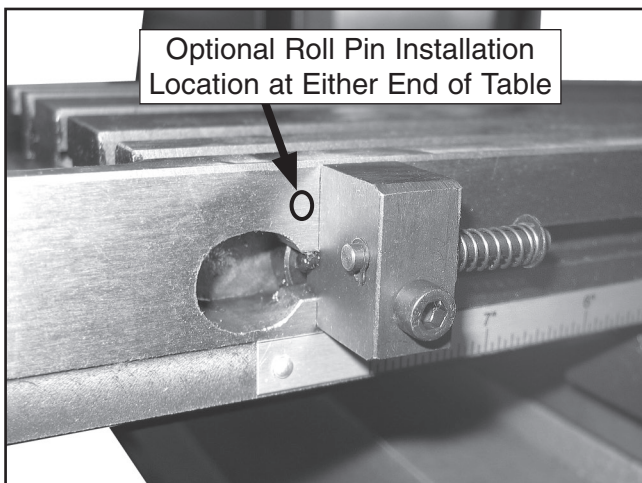

Figure 16. Feed stop and optional pin location.
24. Install the left and right feed stops into the table slot shown in **Figure 16**.